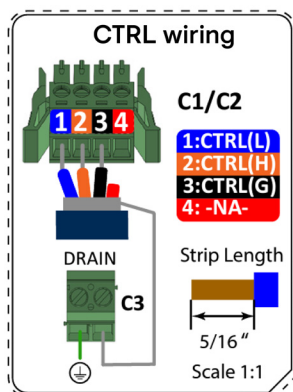

Figure 3: Control header connection
- Drain wire of the shield (marked as drain in Figure 3).